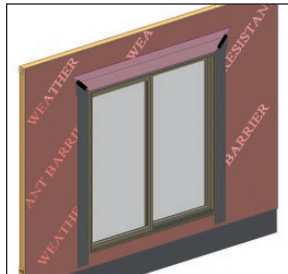

FIG. 27
- C) Cut and apply head flashing. The head flashing should be on top of the drip cap flashing. The head flashing should run slightly past the edge of the side flashing. (Fig. 27)